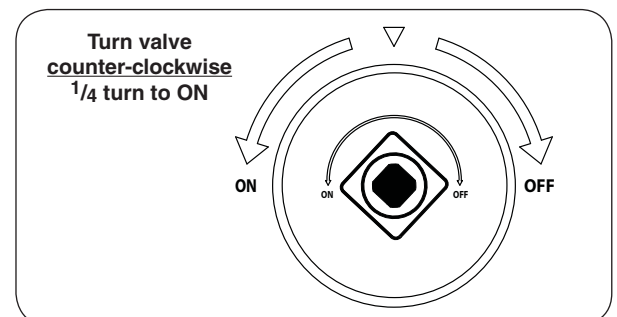

Fig. 37-2 ON/OFF key valve detail
3. Turn the ON/OFF key valve counter-clockwise a $1/4$ turn to the **ON** position (Fig. 37-2).